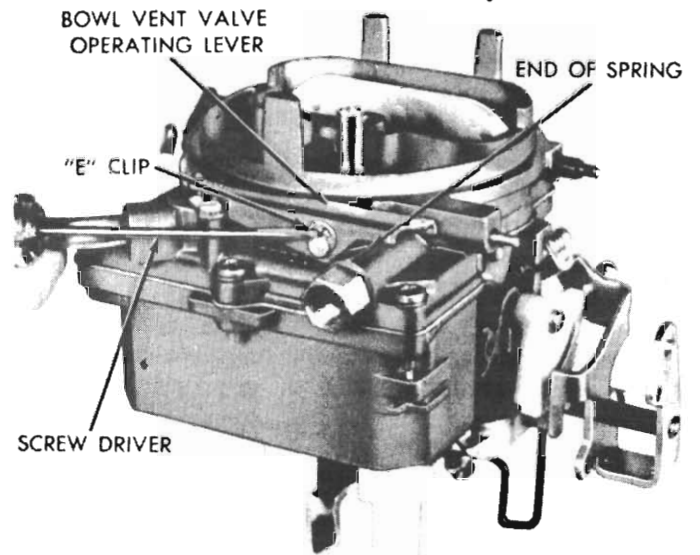

Fig. 5 - Removing bowl vent valve operating lever "E" clip
(6) Remove "E" clip that retains bowl vent valve operating lever on stub shaft or air horn. Slide lever off shaft, being careful not to lose lever spring. (Note position of spring.) (Fig. 5).
(7) Remove eight air horn attaching screws, then lift air horn straight up and away from main body (long screw in centre).